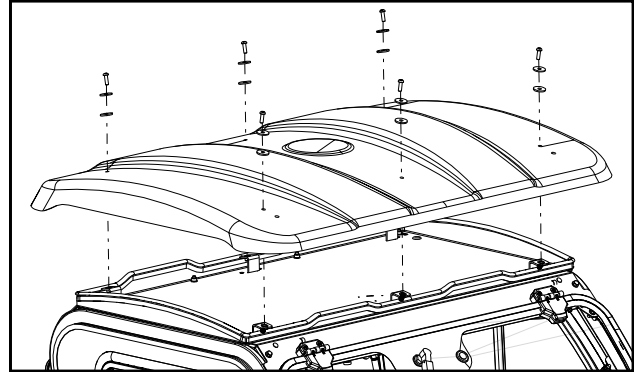

Fig 1.1
- 1.1 Remove the plastic roof from the metal roof pan by removing and retaining the 6 button head bolts, metal fender washers and rubber fender washers. See figure 1.1.